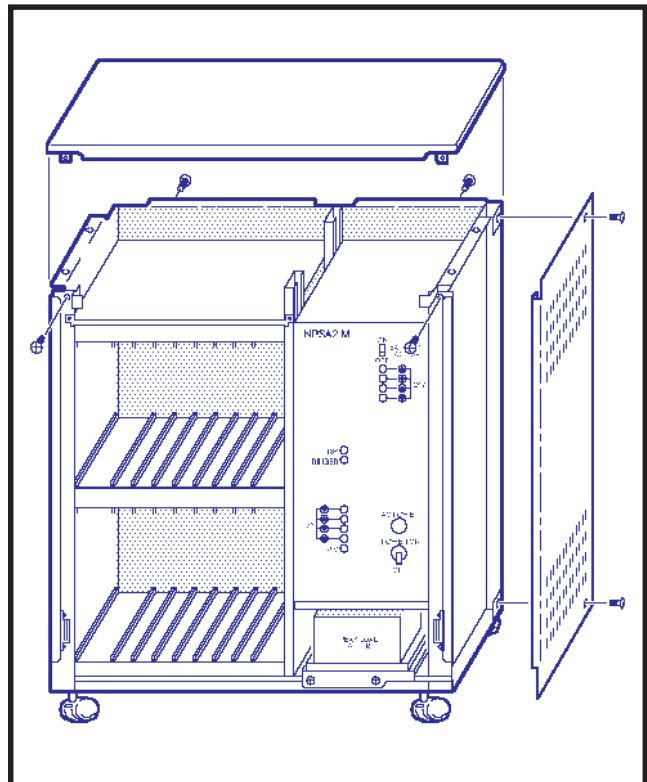

FIGURE 4-6—PERCEPTIONe
- 1) Remove and retain the four screws securing the basic cabinet top cover and lift the cover off the cabinet (Figure 4-6).